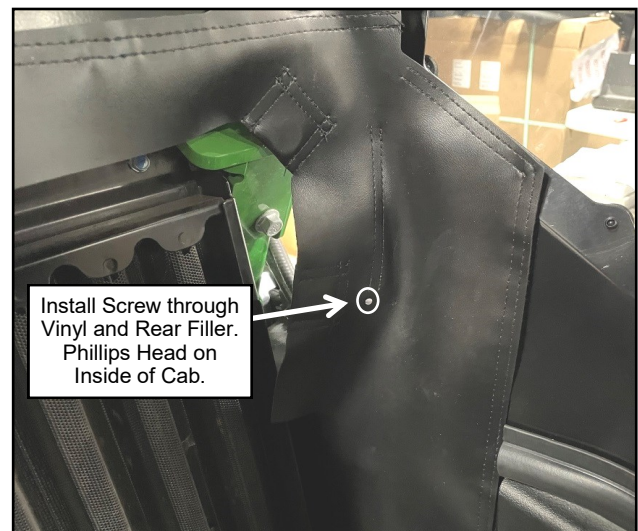

Fig. 2.24a (Attach Rear Filler Vinyl to Left Filler)
2.24 Once the rear panel's vinyl filler is fully installed onto the mating Velcro, install hardware through the Vinyl into the (2) fillers. See Figures 2.24a and 2.24b. Do not over tighten or vinyl will be damaged.